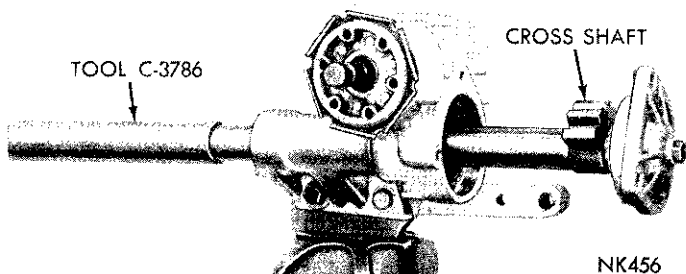
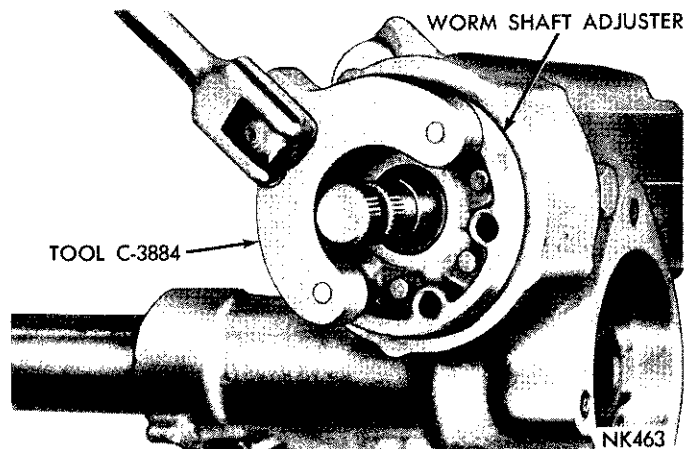

Fig. 4—Removing Cross Shaft
Fig. 5—Removing Worm Shaft Adjuster
- (2) Loosen cross shaft adjusting screw lock nut, and back out screw about two turns to relieve load caused by close mesh between ball nut rack and sector gear teeth. **Remove cross shaft seal as outlined in "Cross Shaft Oil Seal Replacement."**
(3) Position steering wormshaft in straightahead position.
(4) Remove bolts from cross shaft cover and slowly remove cross shaft while sliding arbor Tool C-3786 into housing (Fig. 4).
(5) Remove lock nut from cross shaft adjusting screw and remove screw from cover by turning screw clockwise.
(6) Slide adjustment screw and shim out of slot in end of cross shaft.
(7) Loosen wormshaft bearing adjuster lock nut with a soft drift and remove the lock nut. Hold wormshaft from turning while unscrewing adjuster, using wrench from Tool Set C-3884 (Fig. 5).
(8) Slide worm shaft adjuster off shaft.